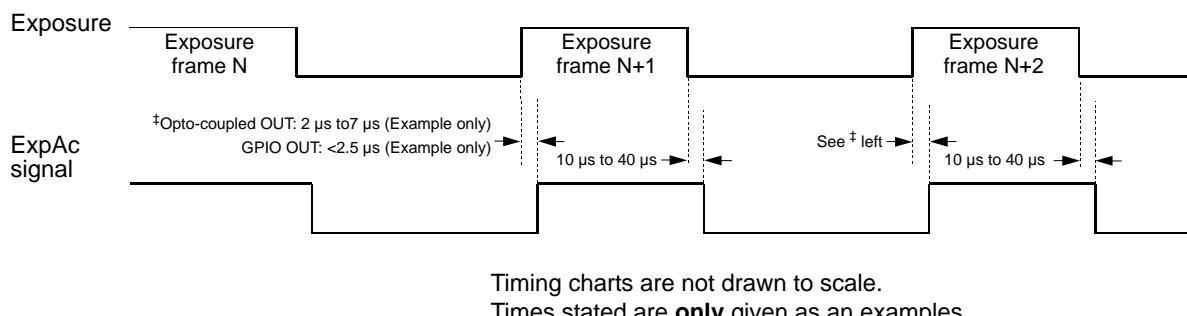

Fig. 91: Exposure Active Signal on Cameras with a Global shutter
- low when the exposure time ends as shown in Figure 91.
- Be aware that there is a delay in the rise and the fall of the signal in relation to the start and the end of exposure. See Figure 91 for details.